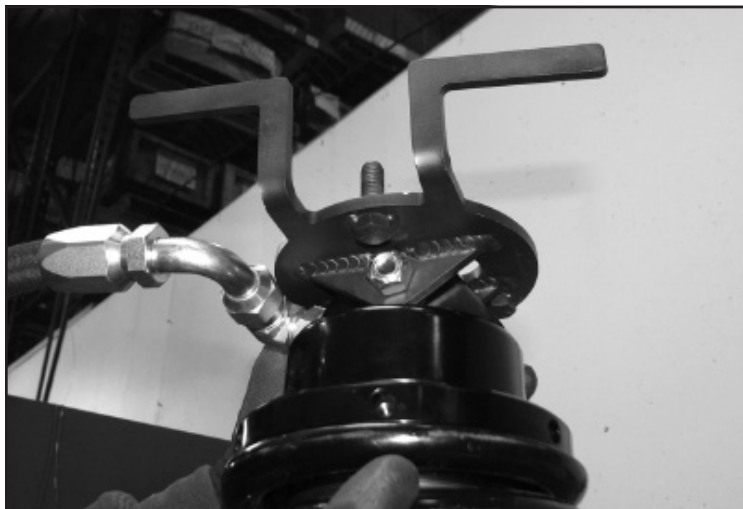

FIGURE 11 - STEP 15
- 15. REPEAT STEP 14 FOR THE PASSENGER SIDE.** Use the Passenger side Coilover, FT30727 (pass upper mount) bushings, misalignments and 1/2" hardware. **SEE FIGURE 11 FOR COMPLETED ASSEMBLY.**